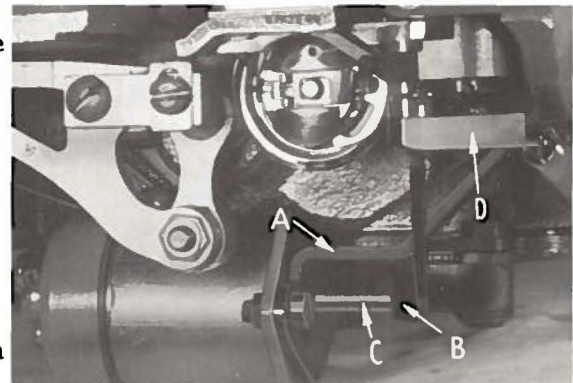

Fig. 31
4. Locate the cutting solenoid bracket (A, Fig. 31) as far forward as possible and parallel with the line of feed. With the cutting solenoid lever (B) contacting the cutting solenoid plunger (C), adjust the pivot release lever (D), so that there is a 1/32 inch (.79 mm) clearance to be maintained when knife return spring